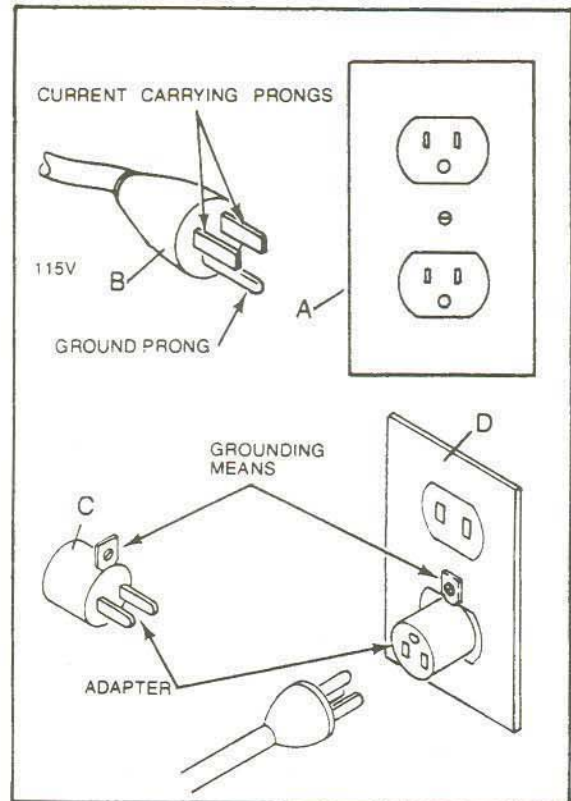

Fig. 5
The HVBS-7MW bandsaw is rated at 115/230V and comes from the factory prewired at 115V. To switch to 230V operation, follow the wiring diagram found on the inside of the motor junction box. The plug end will have to be replaced with a plug that is rated at 230V. The coolant pump wiring will have to be changed also. Follow the diagram found on the cooling pump head to switch to 230V operation. This bandsaw is designed for use on a circuit with an outlet that looks like (A) in Figure 5. The bandsaw has a grounding prong as illustrated in (B). A temporary adapter (C) may be used to connect the plug to a two pole receptacle (D) if a properly grounded outlet is not available. The temporary adapter should only be used until a properly grounded outlet can be installed by a qualified electrician. The green colored lug must be securely fastened to the cover plate screw.